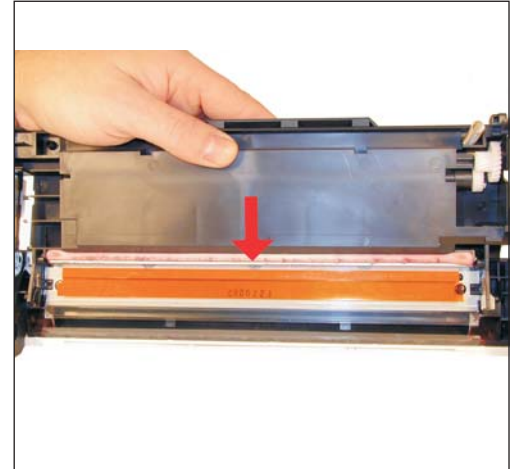

Figure 42
21) If necessary, run a thin bead of silicon caulk across the back edge of the wiper blade. This will ensure that there are no leaks. See Figure 42